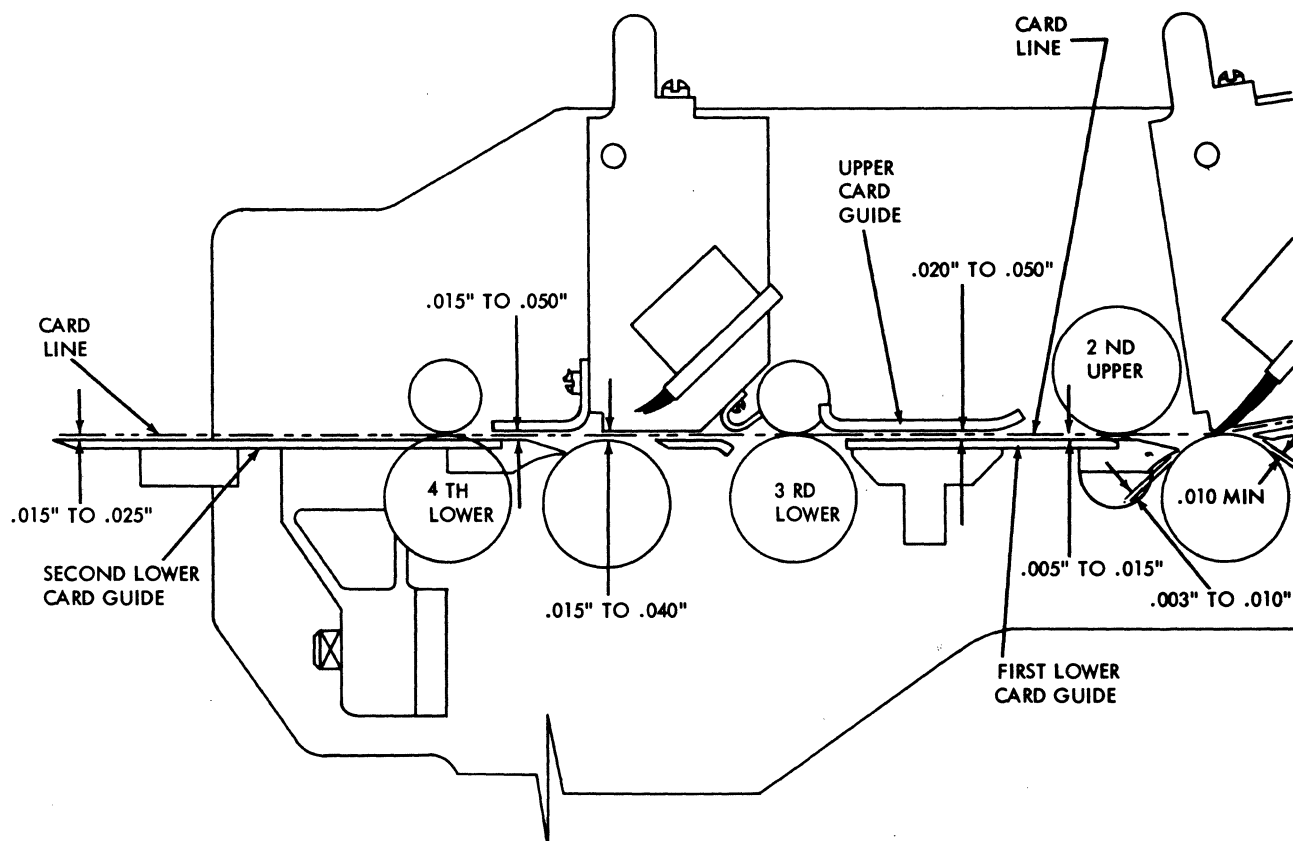

Figure 3-12. Reader Feed Adjustments
Refer to Figure 3-12 for card guide specifications.
4. Adjust brush assembly card guide for .015" to .050" clearance to lower card guide. See Figure 3-12.